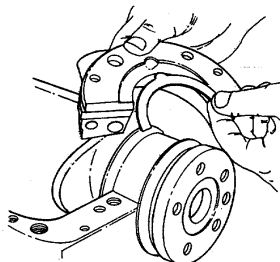

Figure 5-12. Thrust Washers.
- (3) Remove bearing cap retaining screws (30).
- (4) Remove the lower thrust washer halves (4, Appendix F, Figure 52) from the bearing cap (see Figures 5-12 and 5-13).